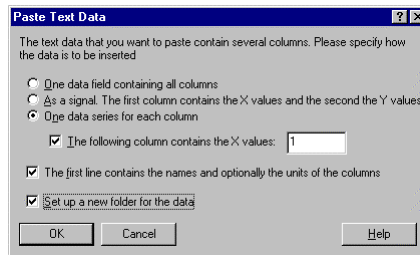

Figure 2.28: Settings in the *Paste Text Data* dialog box
**<CTRL>+<V>**, the button *Paste*, the menu command *EDIT- Paste* or the command *Paste* in the context menu of the FlexPro Explorer open the *Paste Text Data* dialog box (Fig. 2.28). It differs only slightly from the *Set Up Excel Data Link* dialog box used in the previous paragraph.
**Note:** If instead of a table cell a row heading was highlighted in the data view before pasting the content of the clipboard, the *Paste Text Data* dialog box opens (see Fig. 2.28), and after clicking on the respective options or check boxes the two datasets named *x* and *Sum* become visible in the data view and the FlexPro Explorer. After trying this command they can be deleted again.